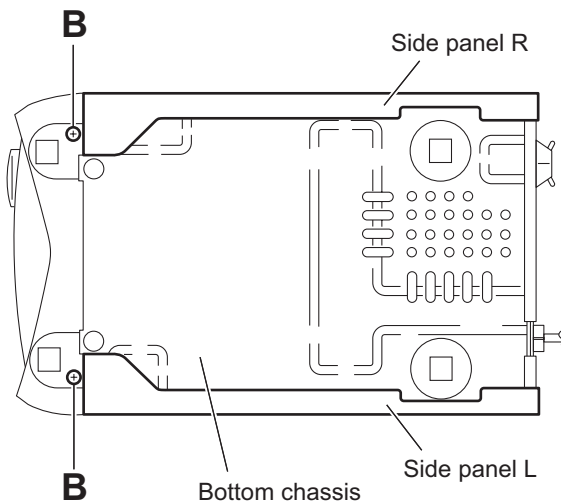

Fig.2
- (2) From the bottom side of the main body, remove the two screws **B** attaching the side panels L/R to the bottom chassis. (See Fig.2.)